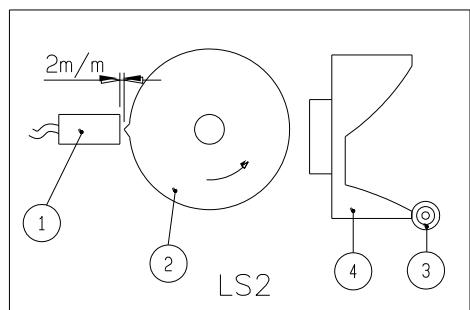

Fig.5.6
**LS2:** LS2 is the start point of strap-feeding. We use ② to adjust the action time. When LS2 is working, the arm shaft (③) is stopped at the highest position of ④(See Fig.5.6).